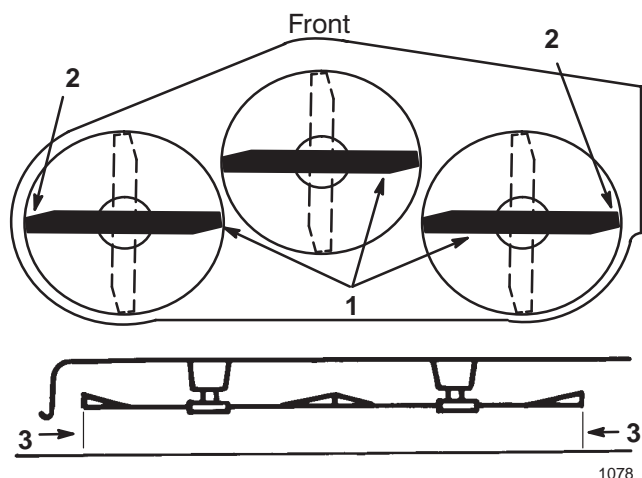

Figure 49
4. Carefully rotate the blades side to side (Fig. 49). Measure between the outside cutting edges and the flat surface (Fig. 49). If both measurements are not within 3/16 in. (5 mm), an adjustment is required; refer to steps 5 and 8.